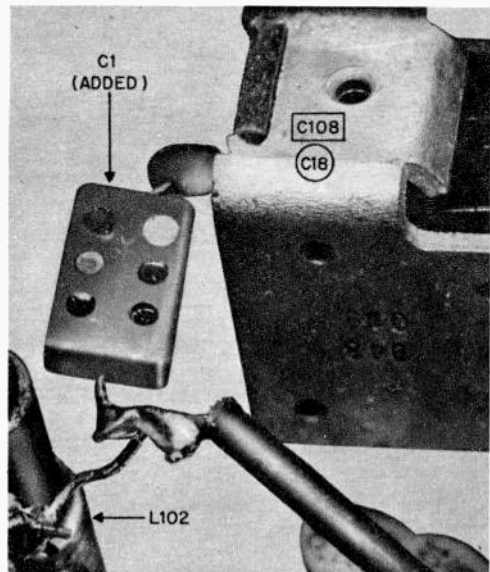

Fig. 5—Bandspread modification. Leads formerly going to C108 (C18 in HW-29A) are connected to one side of C1. Other side of C1 goes to C108.
• **Bandspread.** Since almost all activity is on the first two megacycles (50-52 mc) of the 6-meter band, which extends from 50-54 mc, bandspread will eliminate coverage of the dead upper half of the band. The modification requires a capacitor be installed (C1, Figs. 2 and 5) in series with the existing tuning capacitor (C108 in the HW-29, C18 in the HW-29A). By using a 10-mmf capacitor for C1 you can reduce the receiver tuning range to about 1.7 mc, anywhere in the band. This effectively doubles the area that a selected portion of the band will occupy on the dial. Station tuning will now be less critical. If you don't want to spread the band out that much on the dial, use a 15-mmf capacitor for C1. For more bandspread, use a 7-mmf capacitor. Install C1 as shown in Fig. 5 between C108 (C18 in the HW-29A) and detector coil L102 (L5 in the HW-29A). Readjust the slug of L102 so 51 mc falls at about the 52.3-mc mark on the dial. If C1 is 10 mmf, the receiver